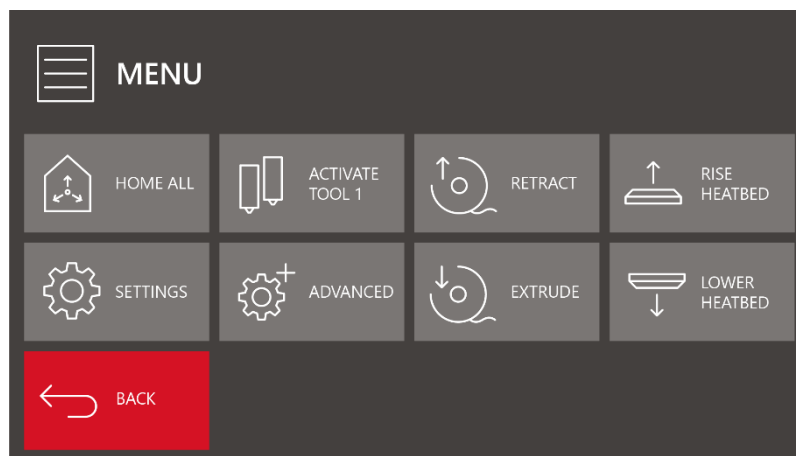

Fig. 23 Advanced options MENU screen
**MENU** – activates the advanced options screen of 3DGence DOUBLE P255 printer (fig. 23).